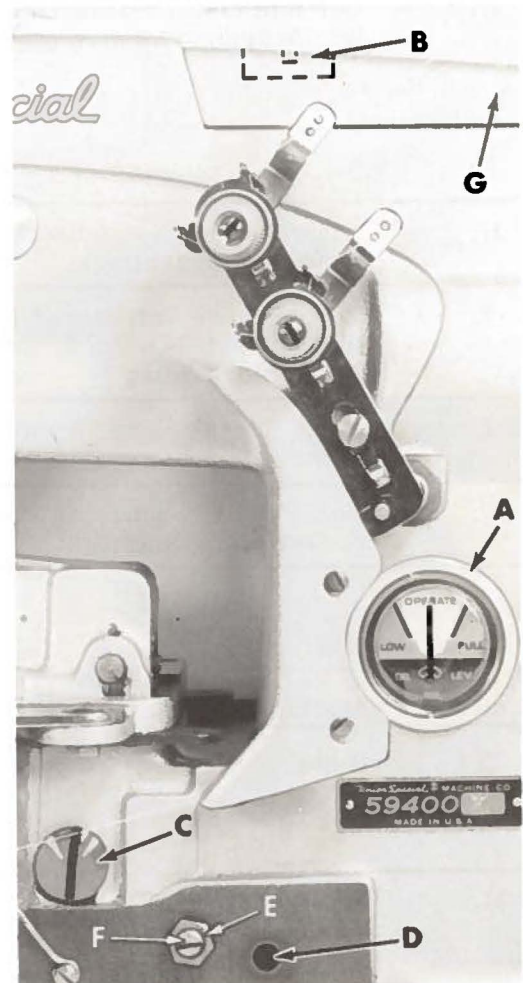
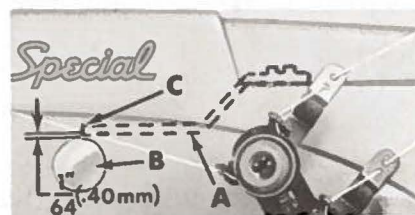

Fig. 2
Fig. 3
CAUTION! Oil has been drained from the main reservoir before shipment, so the reservoir must be filled to the proper level as indicated on oil gauge (A, Fig. 2) before beginning to operate. Run machine slowly for several minutes to distribute the oil to the various parts. Full speed operation can then be expected without damage.
Use a straight mineral oil of a Saybolt viscosity of 90 to 125 seconds at 100° Fahrenheit in the main reservoir. This is equivalent to Union Special specification No. 175. Fill main reservoir at plug screw in upper crank chamber cover (B, Fig. 2) and check oil level at gauge (A). Oil is at maximum safe operating level when needle is to the black line, located to the right of "OPERATE" zone, marked "FULL". Oil should be added when needle is to the black line, located to the left of "OPERATE" zone, marked "LOW". The recommended oil is available in 16 fluid ounce cans No. 28604 R.
For machines in operation check the oil for dirt and lint deposits at reasonable intervals. If dirty, change the oil. An oil change is recommended every 2000 operating hours. Oil may be drained from main reservoir by removing plug screw (C, Fig. 2) located below the cloth plate at front of the machine, or by removing the lower crank chamber cover, located at the back of machine.
2. Remove the oil reservoir plug screw (C, Fig. 2) and tip machine forward to drain oil from the reservoir.
5. Fill main reservoir to a level even with the bottom contour of the knee press shaft bushing (D, Fig. 2).
6. Loosen lock nut (E) on calibrating screw (F), and turn the screw to the left or right until the gauge needle rests on the black line, located to the left of "OPERATE" zone, marked "LOW".
7. Tighten lock nut (E) and replace plug screw (C) and lower crank chamber cover.
Remove the head cover and upper crank chamber cover (G, Fig. 2). Check position of needle lever bearing oiler (A, Fig. 3) located inside the arm casting, below the upper crank chamber cover, which lubricates the needle lever stud (B). Make sure it is tilted downwardly and that its delivery end (C) contacts the inside wall of the bed casting at the back, just above the notch of the needle lever shaft stop collar. (Do not allow the oiler to rest on the needle lever). Allow 1/64 inch (.40 mm) clearance as in Figure 3.